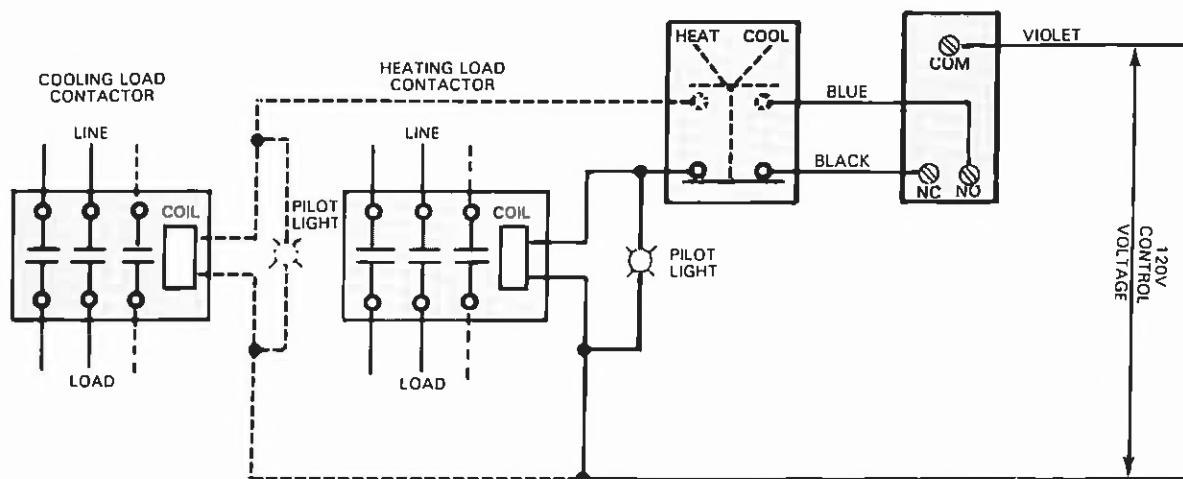

Figure 13
4. **NOTE:** If load amperage or voltage rating exceeds switch rating, a contactor must be used. (See Figures 13 and 14). Contactor and wiring to be supplied by customer.
2. Place the heat/cool selector switch, if applicable, in the heat position. (Figures 13 and 14)
2. Place the heat/cool selector switch, if applicable, in the cool position. (Figures 13 and 14)